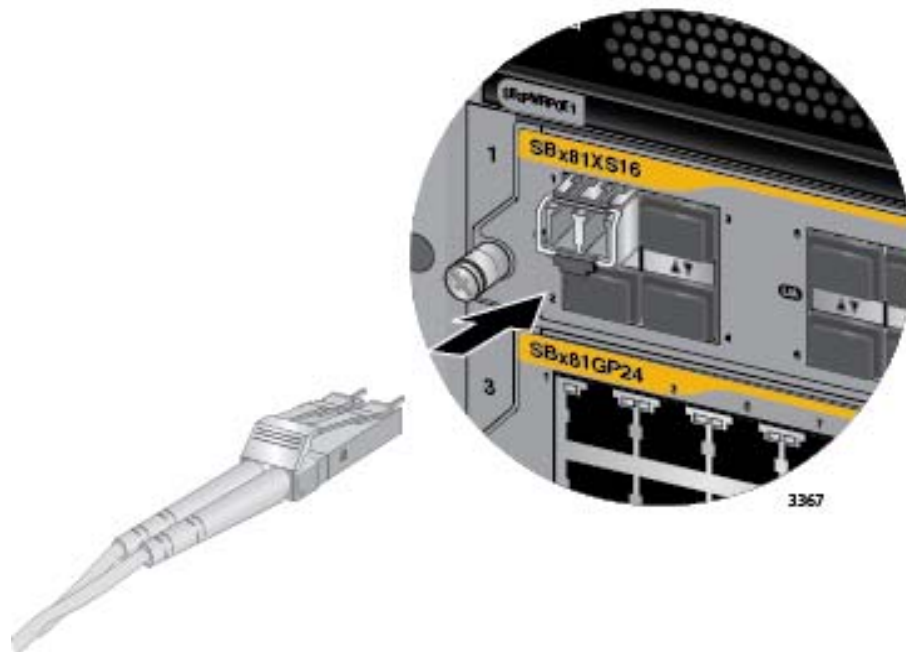

Figure 112. Attaching a Fiber Optic Cable to a Transceiver in the AT-SBx81XS16 Line Card
5. Connect the fiber optic cable to the port on the transceiver, as shown in Figure 112. The connector should snap into the port.